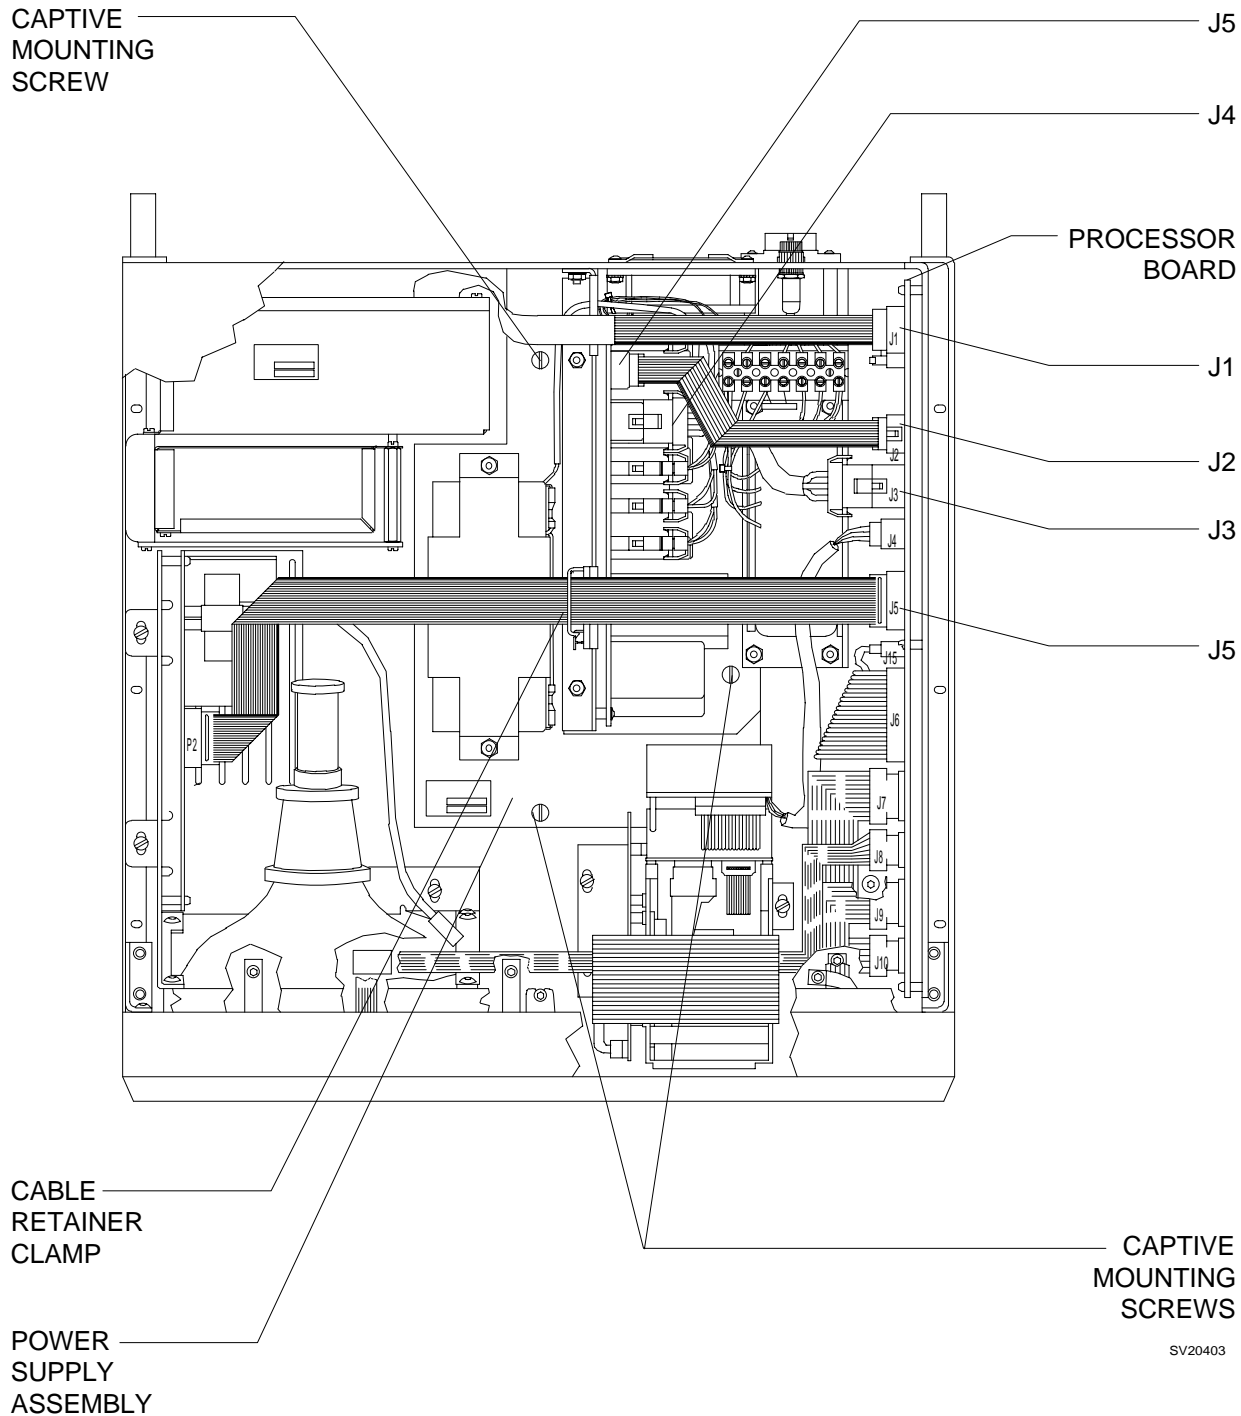

Figure 7: POWER SUPPLY ASSEMBLY REMOVAL
8. Disconnect the DAU - processor cable from J1 on the processor board. See Figure 7.